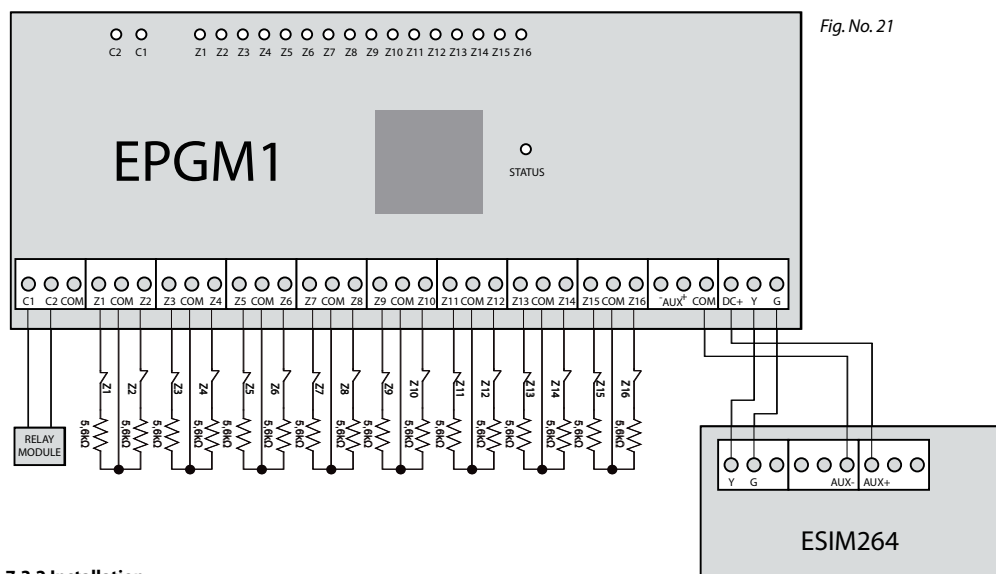

Fig. No. 21
2. Connect EPGM1 DC+ contact to ESIM264 AUX+ contact, EPGM1 COM contact to ESIM264 AUX- contact. EPGM1 Y and G contacts must be connected to ESIM264 Y and G contacts respectively (see Fig. No. 21).